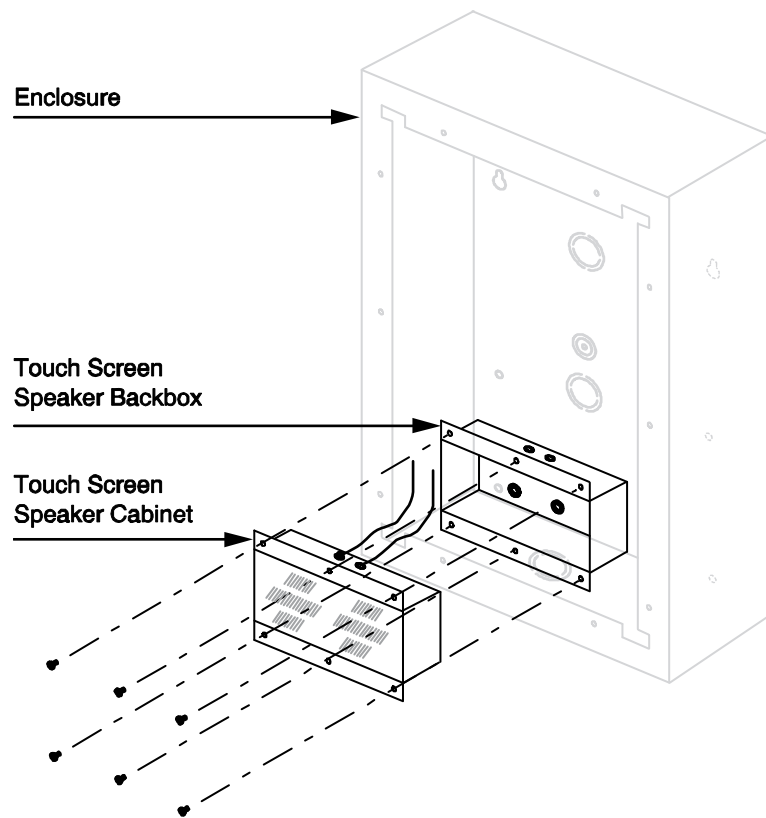

Figure 5. Touch Screen Speakers
3. Secure the speaker cabinet into the backbox using the supplied six screws as shown in Figure 5.